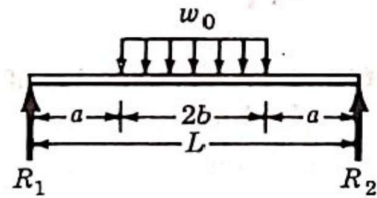

Fig.Q.3(a)
- Q.3(a) The simply supported beam shown in Fig.Q.3(a) carries a uniform load of intensity w_0 symmetrically distributed over part of its length. Determine the maximum deflection δ . [6] CO4 Evaluate